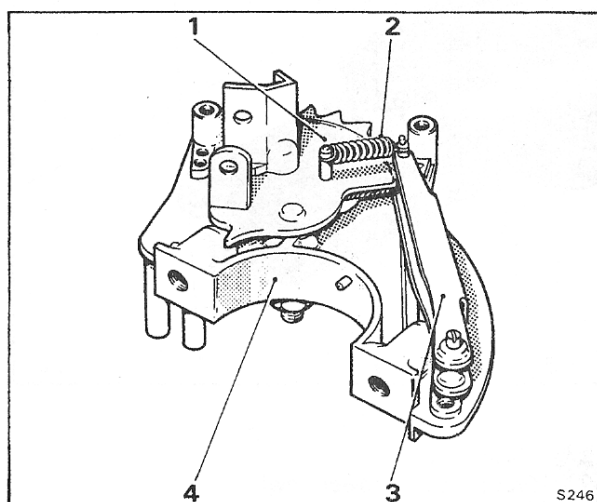

Fig. N31 Quadrant to rocking arm assembly
4. Fit the rocking arm assembly, then check to ensure that the roller lines up correctly with the quadrant detent form (see Fig. N31).